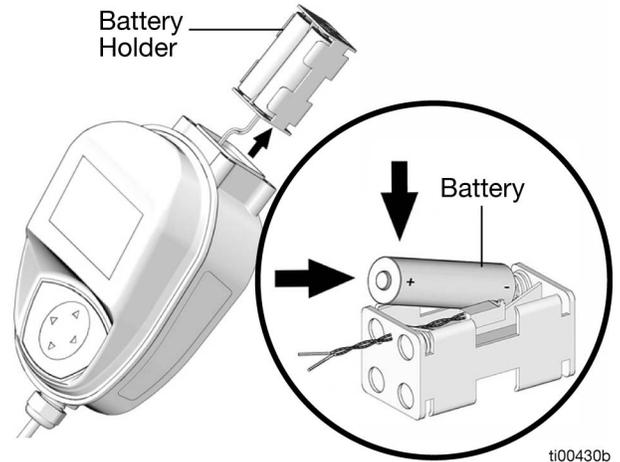

FIG. 51
4. Install four new batteries (FIG. 51).